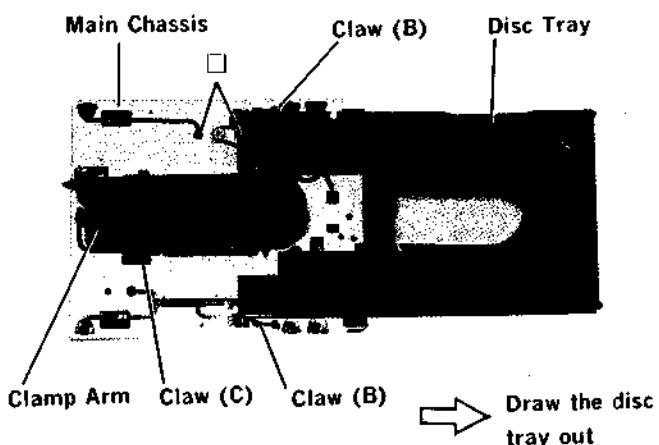

Figure 14 <14図>
- (3) Spread two claws (B) toward outside at the both sides of the disc tray and draw out the disc tray as shown in Figure 14.
- (2) After pulling out the disc tray frontward, remove the clamp arm by pressing one claw (C) as shown in Figure 14.
- (1) Remove one belt and two screws marked “□” as shown in Figure 14.